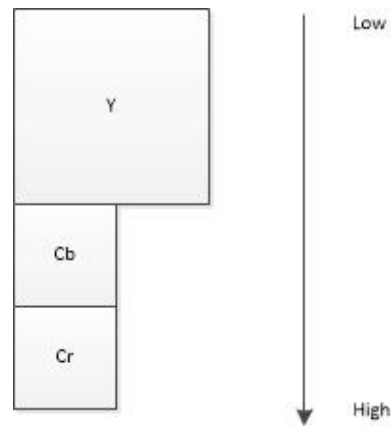

Fig. 7. Layout Planar YCbCr with 4:2:0 subsampling
Layout Planar YCbCr supports all type of subsampling (4 : 4 : 4, 4 : 2 : 2, 4 : 2 : 0 and etc). There are three planes: Y, Cb, Cr. Luminance plane (Y) has the same size as original image. Chrominance planes (Cb and Cr) are downscaled respectively to subsampling. For example for 4 : 2 : 0, chrominance value corresponds to one block (2 rows by 2 columns) of original image. Figure 7 shows color planes for 4 : 2 : 0 subsampling in memory.